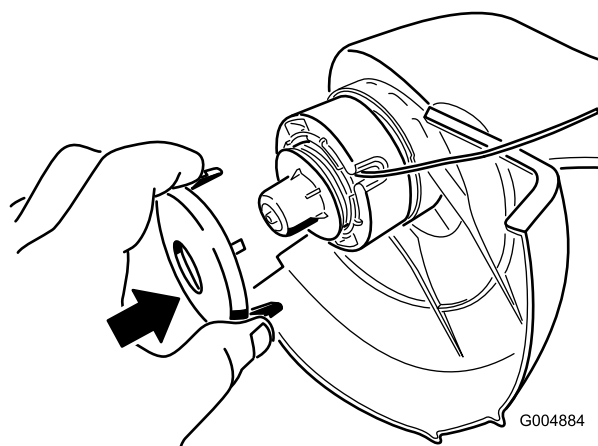

Figure 9
8. Press in the tabs and push down the cap and spool to lock the cap in place (Figure 9).